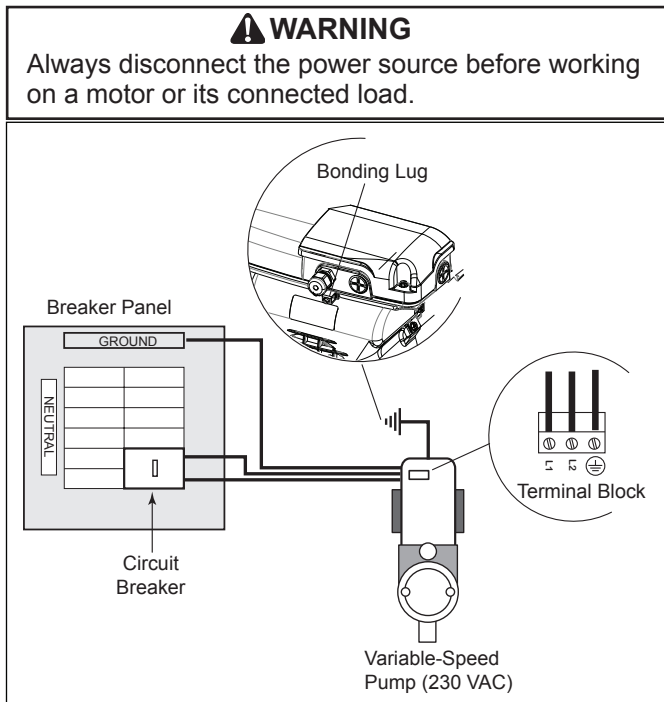

Figure 3. Bonding the Motor
- The bonding must be accomplished by using a solid copper conducto, No. 8 AWG or larger. In Canada No. 6 AWG or larger must be used. Bond the motor using the external bonding lug provided on the motor (See figure 3).